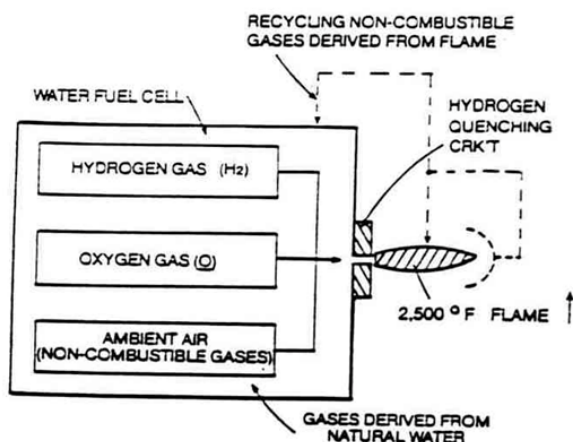

FIG. 24: RENDERING HYDROGEN SAFER THAN NATURAL GAS
The gas mixing ratio of said Fuel Cell automatically adjusts the burn rate of **hydrogen gas from 325 cm/sec to 42 cm/sec**, co-equating the burn-rate of natural gas, as illustrated in Figure 24 as to Figure Graph 23.
To reduce the burn-rate of the hydrogen gas still further to lower flame temperature, simply **capture** (1) and **recycle** (2) the **non-combustible gases** (3) being expelled from said sustained **hydrogen flame** (9), as illustrated in Figure 24 as to Figure 24SC.